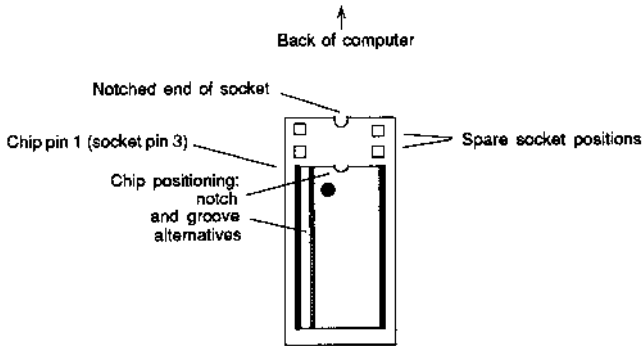

Figure 5: Positioning the new ROM chip
- 4 Take the chip identified as ROM 1 and holding it by the plastic case, align it as follows (with reference to figure 5):
The sockets have 32 pin positions whereas the ROMs have only 28 pins, so four pin positions will be unused. Always align the ROMs so that the four free positions are at the notched end of the socket (see Figure 5).